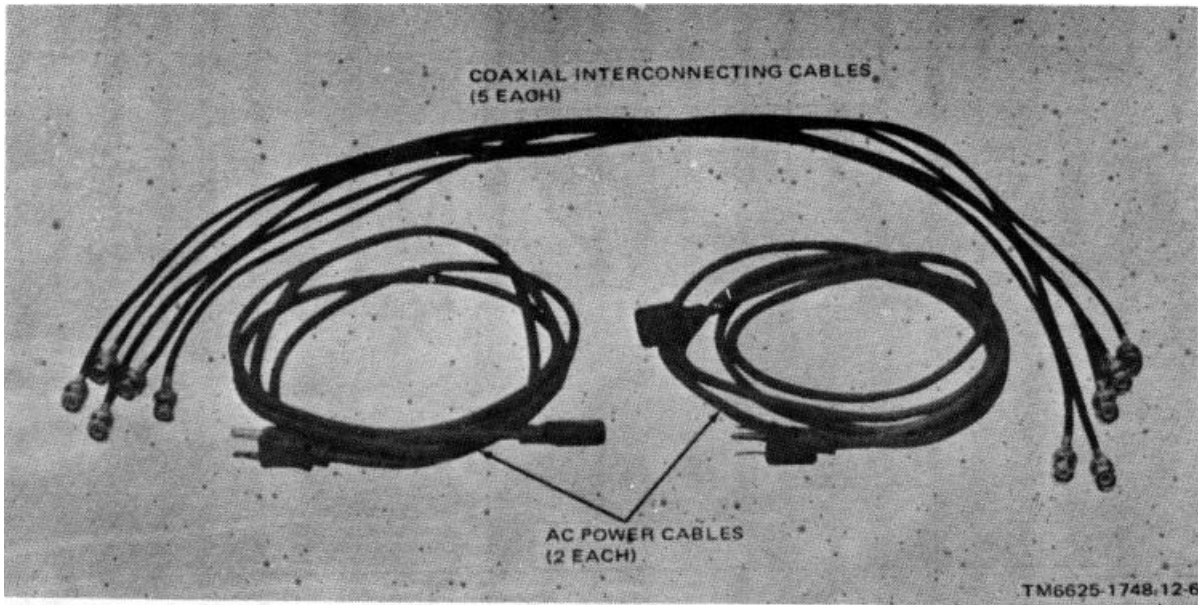
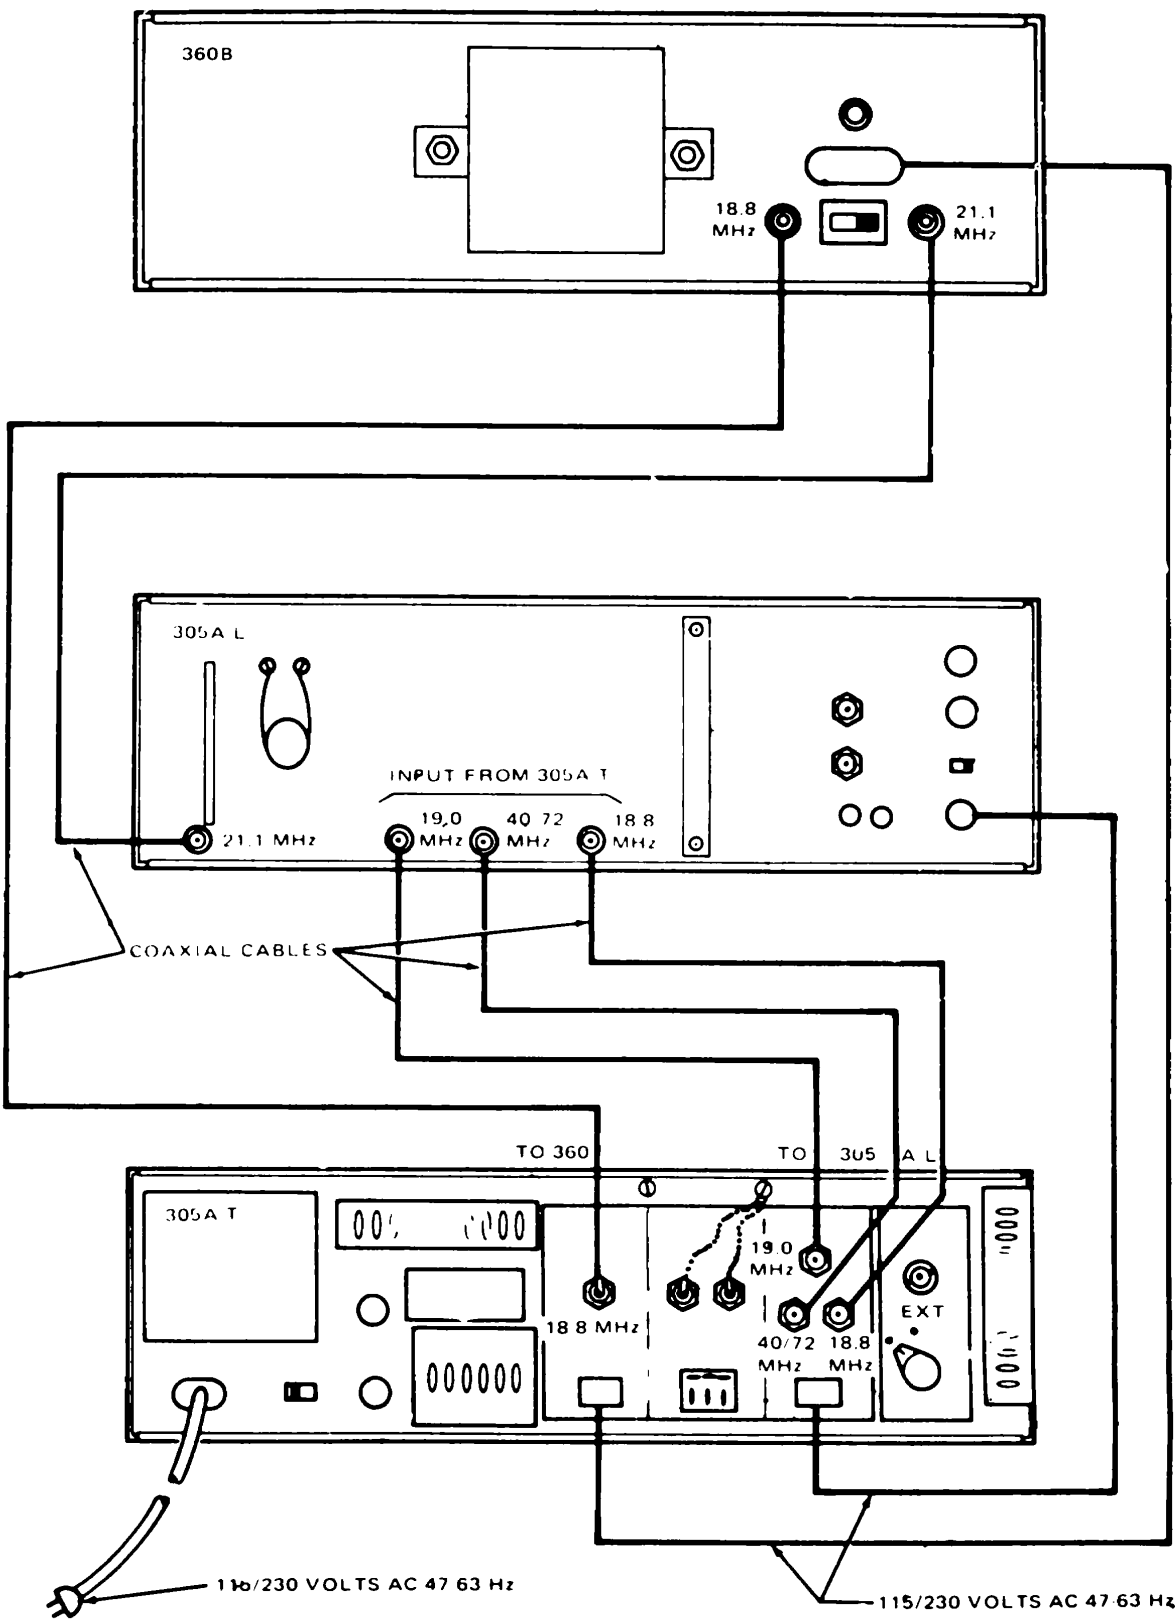

Figure 1-6. Coaxial interconnecting cables and power cables.
Figure 2-2. Interconnection diagram, Test Set, Radio AN/USM-306G(V)1.
b. Connections. Access to the rear of the units is through the rear of the cabinet. Make the power and signal connections according to the cabling diagram (fig. 2-2). Table 2-2 lists the cables by point of origin and destination, and length. All power and unit interconnecting cables are supplied with the equipment (fig. 1-6).